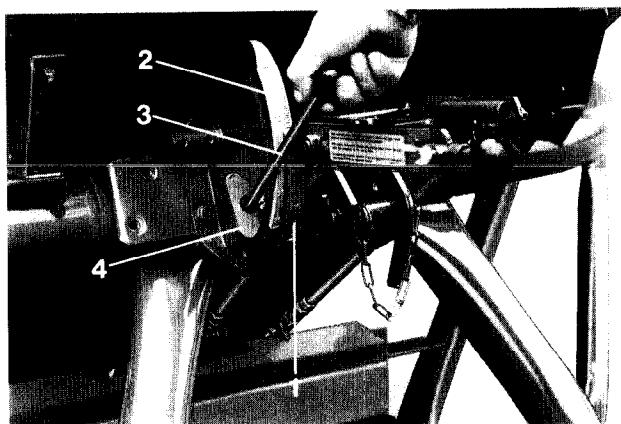

Fig. 3
- 2.2.68 When spreading superphosphate, damp or poorly stored fertilizer, it is advisable to remove all excess fertilizer at the bottom of the hopper, hopper opening, deflector plates, and spreading discs by using the extension handle (Fig. 3/3) for this purpose. Furthermore the remainder of fertilizer sticking to **spreading blades** and **deflector plates** has to be **removed**.
The rate setting is done by adjusting the stop (Fig. 3/1) on the scale (Fig. 3/2) with the aid of the extension handle (Fig. 3/1). Firstly loosen the wing nut (Fig. 3/4) then adjust the stop (Fig. 3/1) to the required position, this being read from the calibration chart.
Make sure the wing nut (Fig. 3/4) is retightened securely.